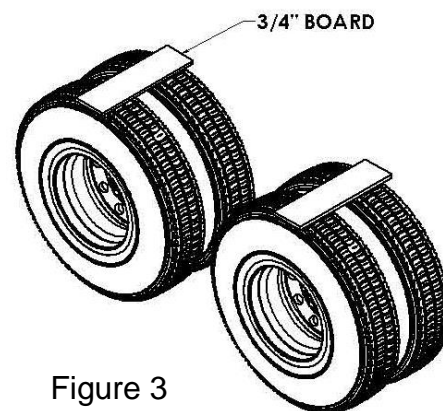

Figure 3
- a. For an air suspension system, place a 3/4" board on top of the tires after the air has been let out of the airbags (Figure 3). Place the fender on top of the board.